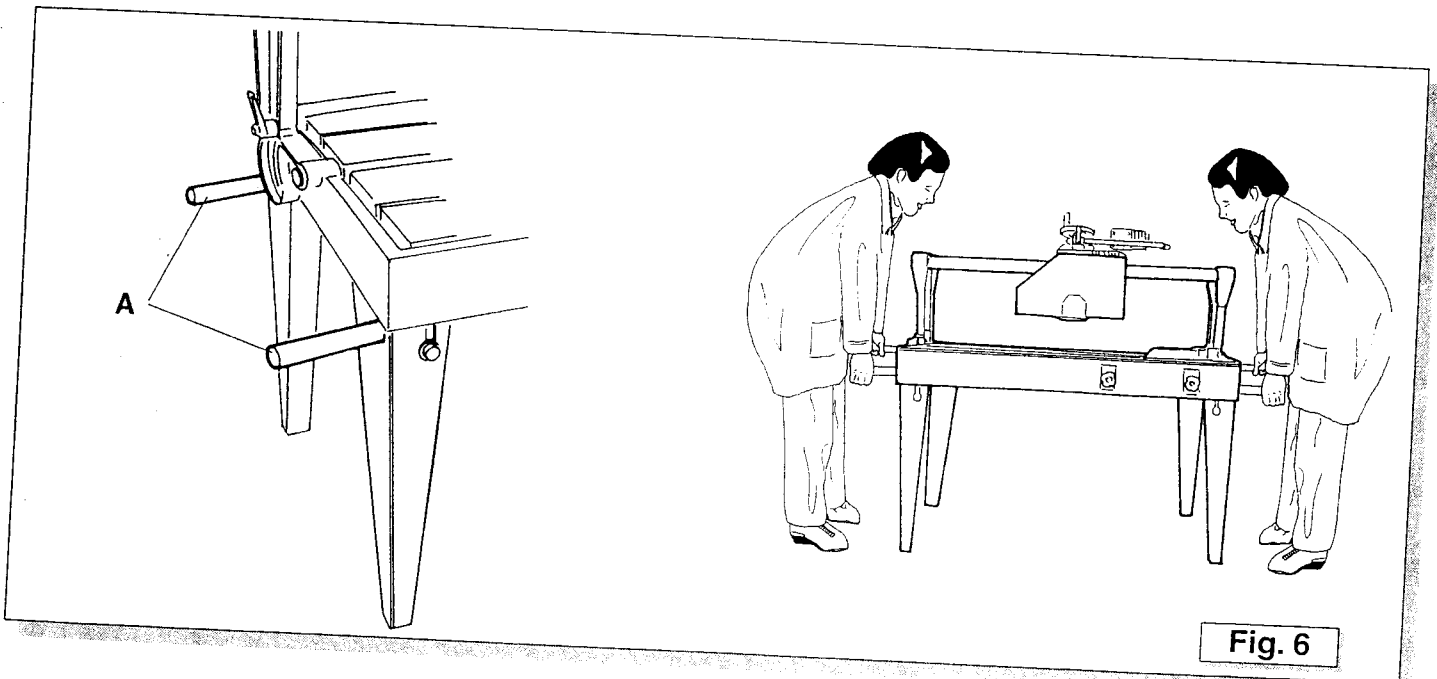

Fig. 6
- Pull out the lift handles **A** (Fig. 6) from under the table and carefully lift to a minimum height to move the machine.
Two or four men can move the machine (Fig. 6) (depending on the weight).